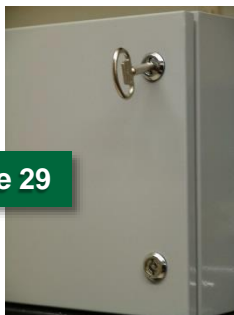

Figure 29
2. Unlock both the top and bottom of the battery case with the key provided (Figure 29). The case contains two batteries labeled with a date written on laboratory tape, two red cables, two black cables, and mounting hardware.